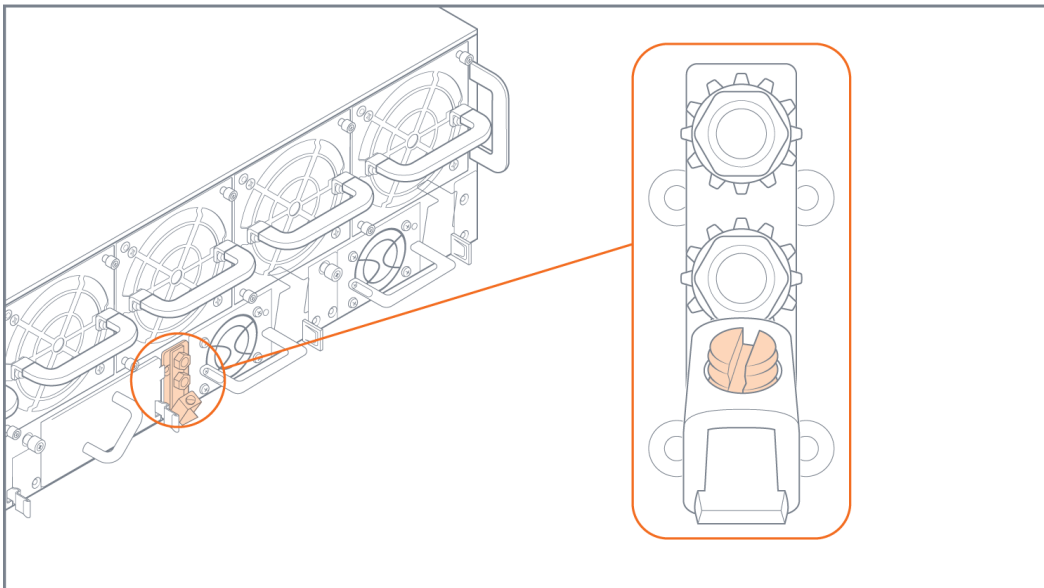
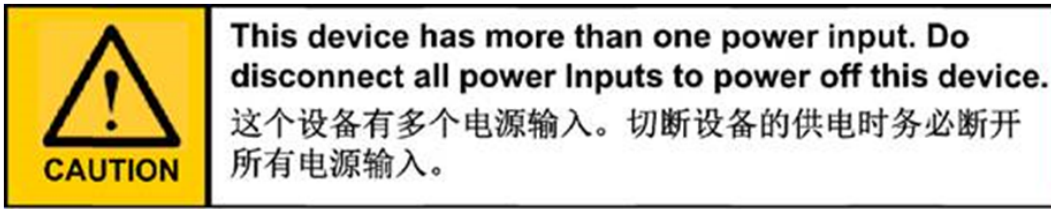

Figure 1 Grounding Lug on Rear of GigaVUE-HC3
Figure 3 Power Caution Label
1. Locate the grounding lug at the center rear of the chassis. Refer to Figure 1 Grounding Lug on Rear of GigaVUE-HC3 (or Figure 3 Rear View of the GigaVUE-HC3 Chassis) for the location on a GigaVUE-HC3 node.